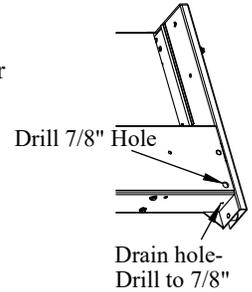

Figure 11: Access hole location.
5. Drill a new 7/8" access hole in the back of the liftgate or Drill out the drain hole in the bottom of the liftgate to 7/8" (Figure 11).
10. Pull the end of the harness with all the wires through the 7/8" drilled hole (Figure 11) Leave harness draped loosely in mainframe until all components are installed.